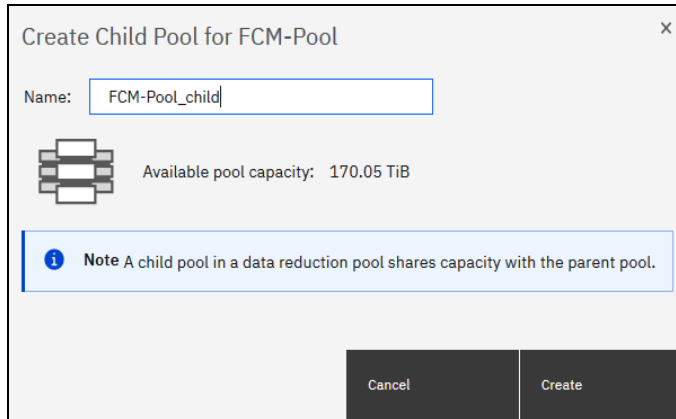

Figure 5-20 Creating a child pool type `child_quotaless`
- When the dialog box opens, enter the name of the child pool and click **Create**. Figure 5-20 shows the dialog for pool type `child_quotaless`.